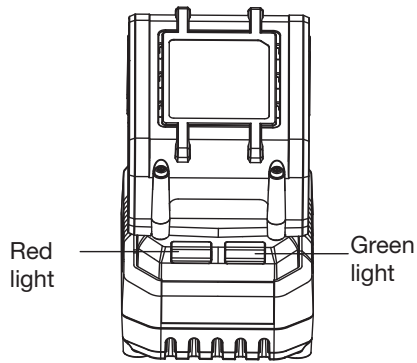

Figure 4
4. CHARGING THE BATTERY PACK (NOT SUPPLIED) (SEE FIG. 4)